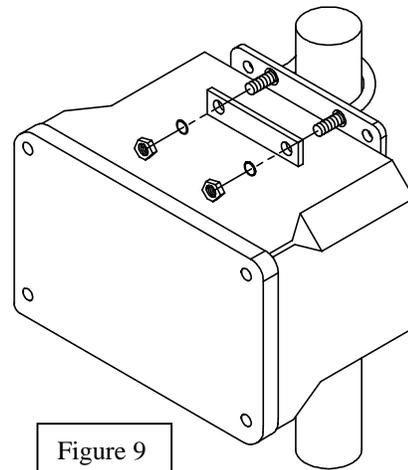

Figure 9
2. Fasten the top and bottom of the 6504, with installed brackets, to the rail using the u-bolts, plates, lock-washers, and nuts as shown in Figure 9.